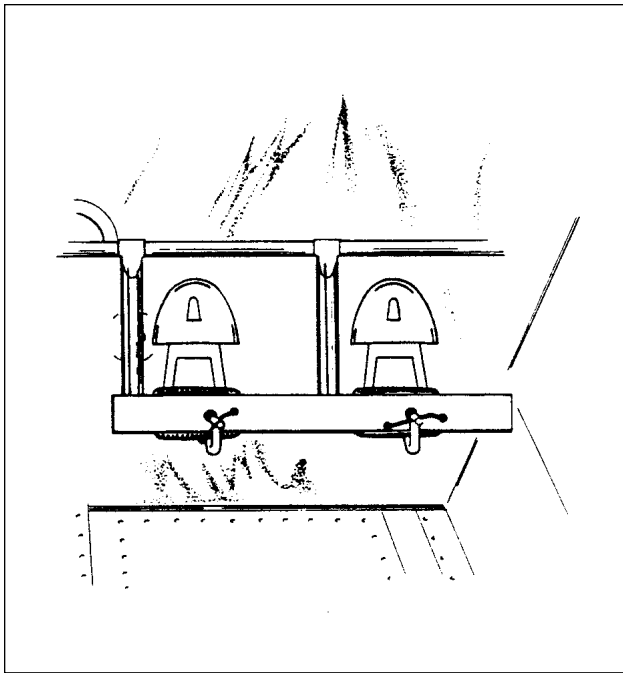

Figure 7-3. Clamping Rudder Pedals in Neutral Position
- g. Clamp the rudder pedals together to align them in a lateral position. (Refer to Figure 7-3.) The rudder pedals are tilted  $14^{\circ} \pm 3^{\circ} -1^{\circ}$  aft of vertical when in their neutral position.